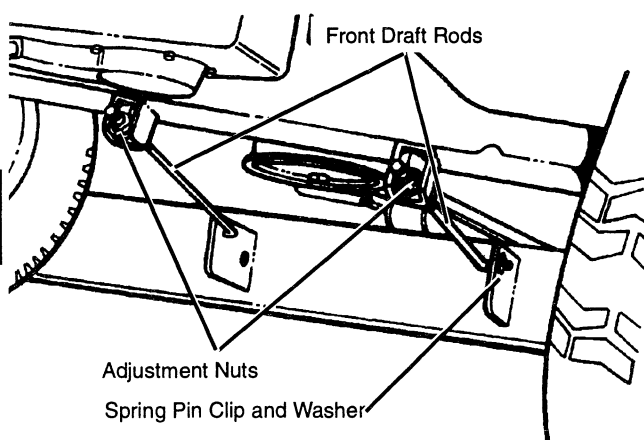

FIG. 46
- Remove spring pin clips and washers from two mower draft rods at front of deck. (See Fig. 46)
- Attach draft rods to front of deck with washers and spring pin clips. (See Fig. 46)